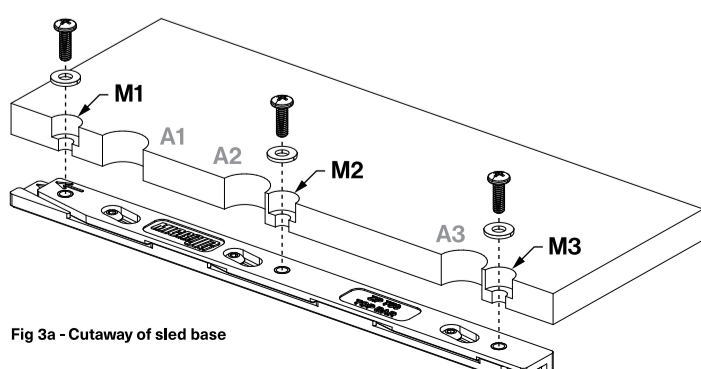

Fig 3a - Cutaway of sled base
- For 1/2" thick sled bases: (3x) 1/2" pan head screws (E) OR
- For 3/4" thick sled bases: (3x) 3/4" pan head screws (G)
Insert the pan head screws with flat washers (F) through each mounting hole (M1, M2, M3) and tighten [Fig 3a].